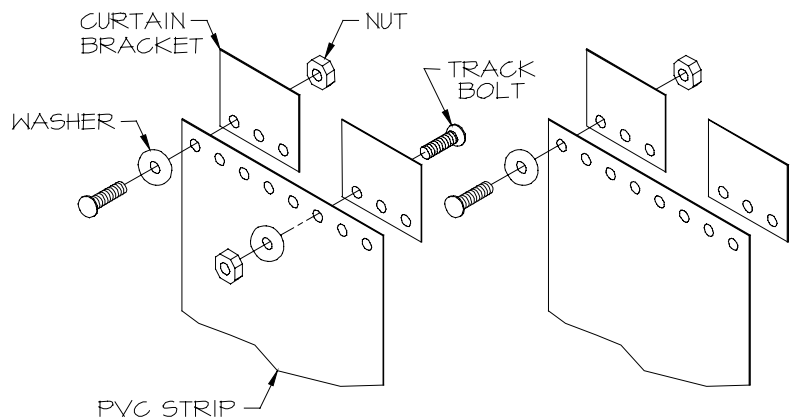

FIG. 13
c. Attach P.V.C. Strip to Curtain Bracket (Figure 13).
- * On left side of Curtain Bracket, **insert hardware** so that the Track Bolt head and washer is on the front and the nut is on the back (Figure 13).
- * On right side of Curtain Bracket, **insert hardware** so that the Track Bolt head is on the back and the washer and nut are on the front (Figure 13).